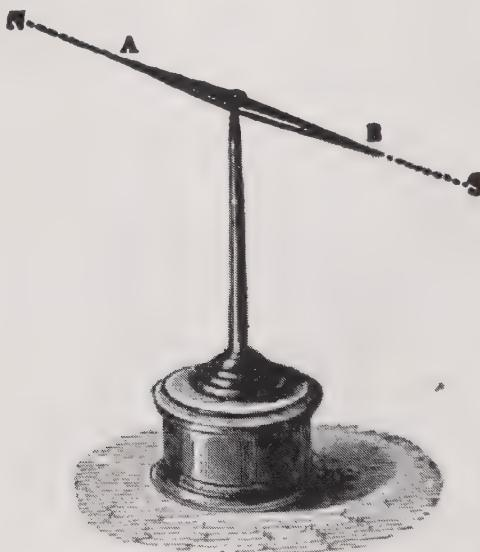
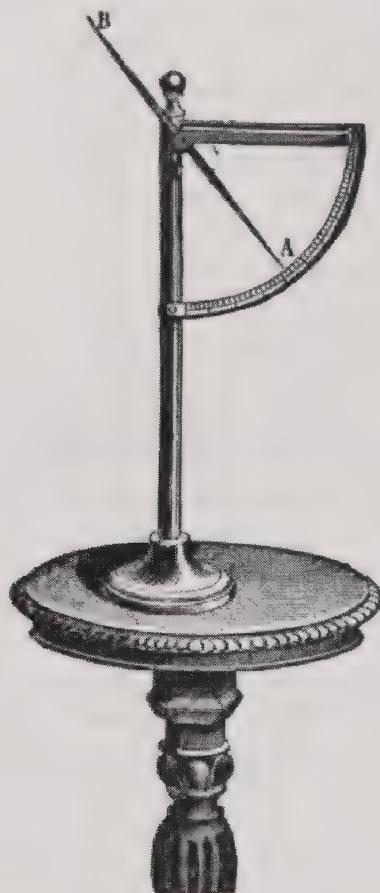

Fig. 69. Magnetic Needle.
FIG. 72. Dipping Needle.
*Answer.* It is a long slender magnet, as compared with its own width and thickness, fitted with a cap in the center so that it may be balanced on a pivot or hung from a thread. This allows it to turn freely. Fig. 69.
*Answer.* Near the equator of the earth a needle may be balanced and then magnetized, but in other places if the needle is balanced and then magnetized one end of the needle will dip. Fig. 69 shows this. If the needle is mounted so that it can turn with perfect freedom vertically as in Fig. 72 it will in Chicago incline from the horizontal line about  $70^{\circ}$ .